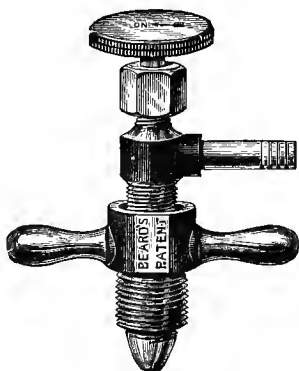

Fig. 22. FINE ADJUSTMENT VALVE.
*the valve of the cylinder itself*, the taps at the jets being left full on; on no account must the jet tap be turned off. If this were done the pressure in the cylinder would rapidly accumulate behind the jet, and the tubes would be blown off, or, if tied on, burst. Where the regulation has to be done at the cylinder, a form of screw-down valve in which the adjustment can be regulated to a nicety will be found a convenience, one of these is shown in Fig. 22. Biunial and triple lanterns *necessitate* the